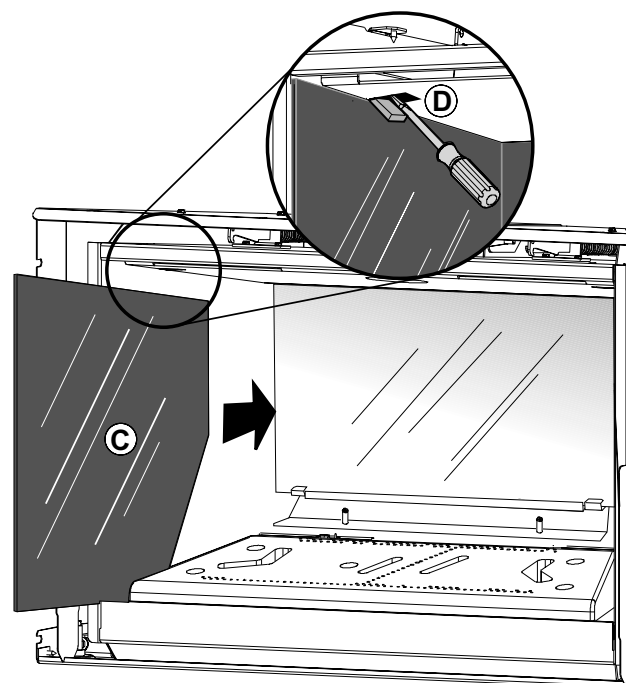

Figure 27. Install side glass panels.
4. Slide each Side Panel (C) into position flat against the firebox side, resting on the support shelf as in fig. 27. Push the side panel back against the rear panel.